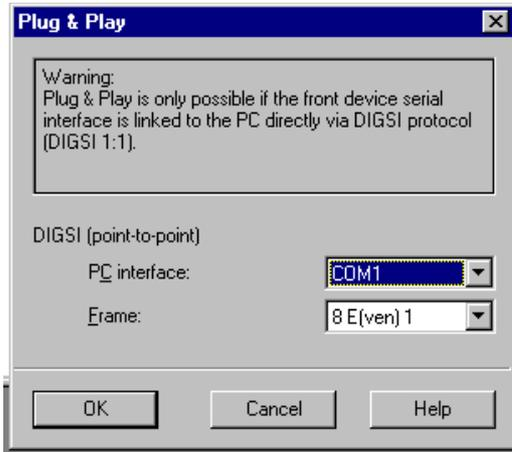

Figure 3-6 **Plug & Play** dialogue box for communication between device and PC
- Select **Folder** by clicking on the item in the newly opened window. Then click in the menu bar the item **Device** and select the option **DIGSI > Device (Plug & Play)**, as shown in Figure 3-5. The **Plug & Play** dialogue box opens, as shown in Figure 3-6.